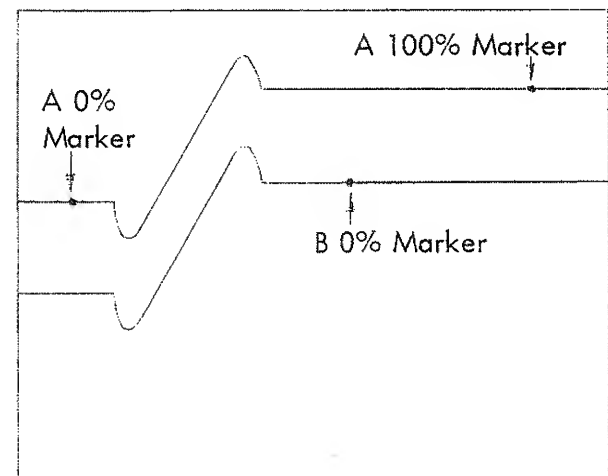

Figure 3-10 Gated Volts and Overshoot
Voltage measurements can be made between specific levels on a waveform by using the memories in the gated mode. Figure 3-10 illustrates a gated voltage measurement on A channel to give pulse amplitude, excluding preshoot and overshoot.
a. Assume the waveform in figure 3-10.
A combination of gated and peak memory modes can be used to make selective voltage measurements on a waveform. Figure 3-10 illustrated a waveform measurement of the positive overshoot B channel.
- a. Assume figure 3-10, B channel.